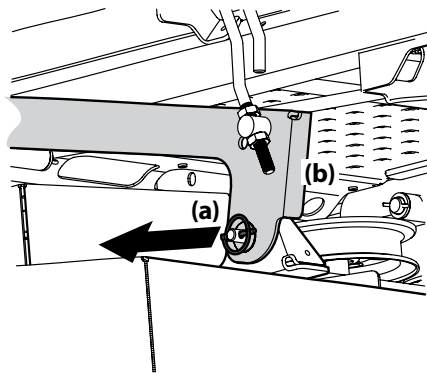

Figure 4-14
6. Locate the LH and RH deck release pins (a) on each side of the deck. Pull the deck release pins (a) outward and release the deck from the LH and RH deck lift arms (b). See Figure 4-14.
5. Pull the deck release pins outward and maneuver the deck as necessary to align the holes in the deck lift arms with the pins. Refer to Figure 4-14.